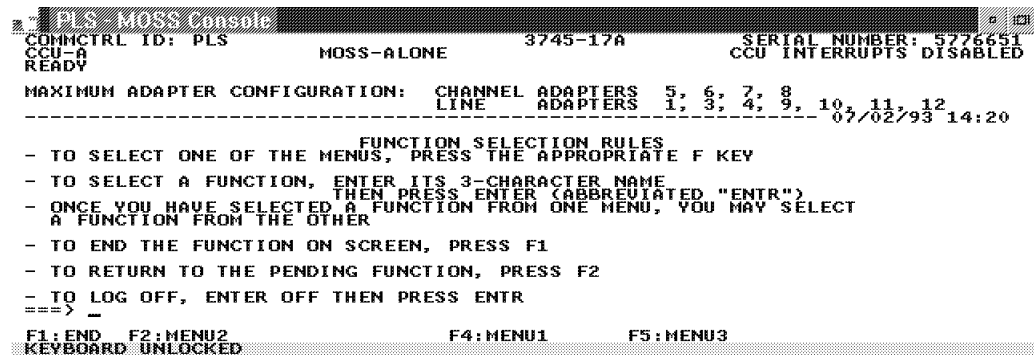

Figure 7-2. MOSS Primary Menu
- d. ____ From the MOSS primary menu (see Figure 7-2), **type CDF** and **press ENTER**.